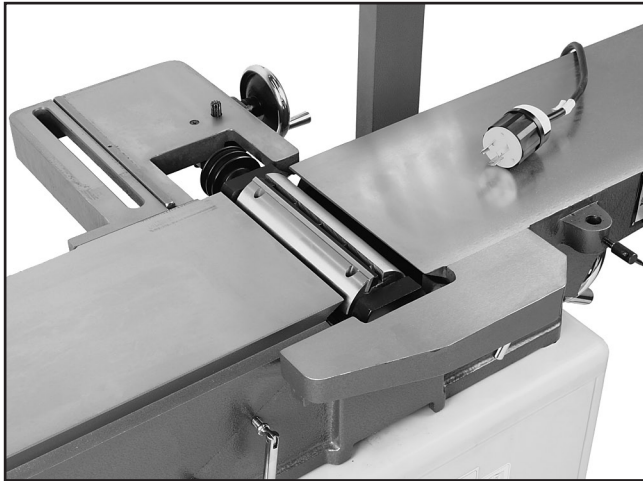

Figure 3. Jointer disassembly Steps 1–4.
4. Lower both beds to make enough room for the cutterhead to come out, as shown in **Figure 3**.